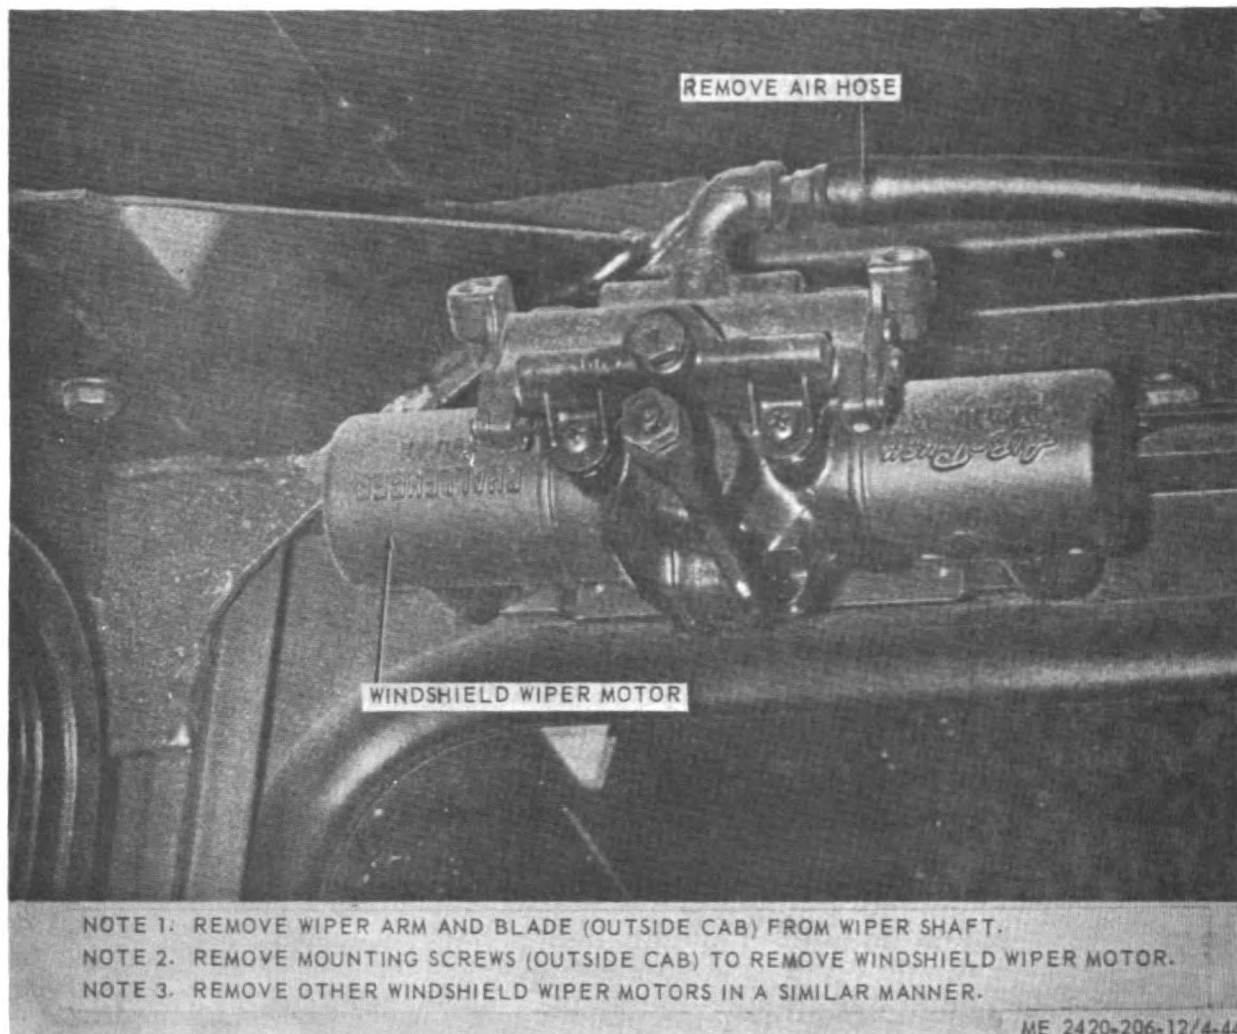

Figure 4-44. Windshield wiper motor, removal and installation.
a. *Removal.* Remove windshield wiper motor as illustrated in figure 4-44.
(1) Clean parts and dry thoroughly.
(2) Inspect for cracks, breaks and other damage. Replace defective windshield wiper motors as necessary.
c. *Installation.* Install windshield wiper motors as illustrated in figure 4-44.